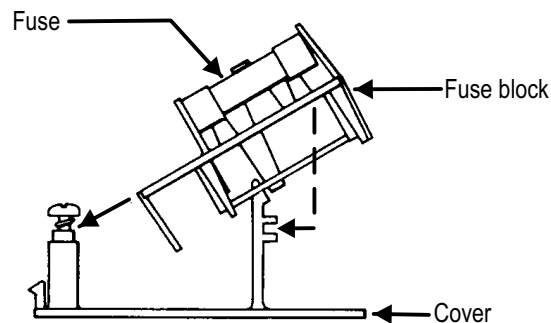

Figure 2-5. Changing fuse types
3. On the back of the cover, loosen the Phillips screw two turns, then remove the fuse block by sliding up, then away from the screw and lifting from pedestal at the other end (refer to Figure 2-5).